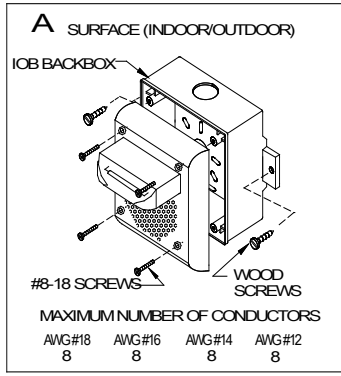

Figure 1
**CAUTION:** Figure 1 shows the maximum number of field wires (conductors) that can enter the backbox used with each mounting option. If these limits are exceeded, there may be insufficient space in the backbox to accommodate the field wires and stresses from the wires could damage the product.